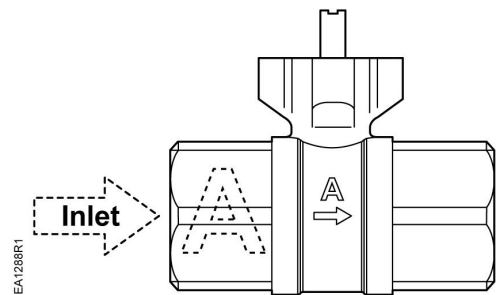

Figure 1. Non-Installed Valve.
- **Non-Installed Valves.** Look into the A (inlet) port to see if it is open. See Figure 1.
- **Non-Installed Valves.** Look into the **A** (inlet) port to see if it is closed. See Figure 1.